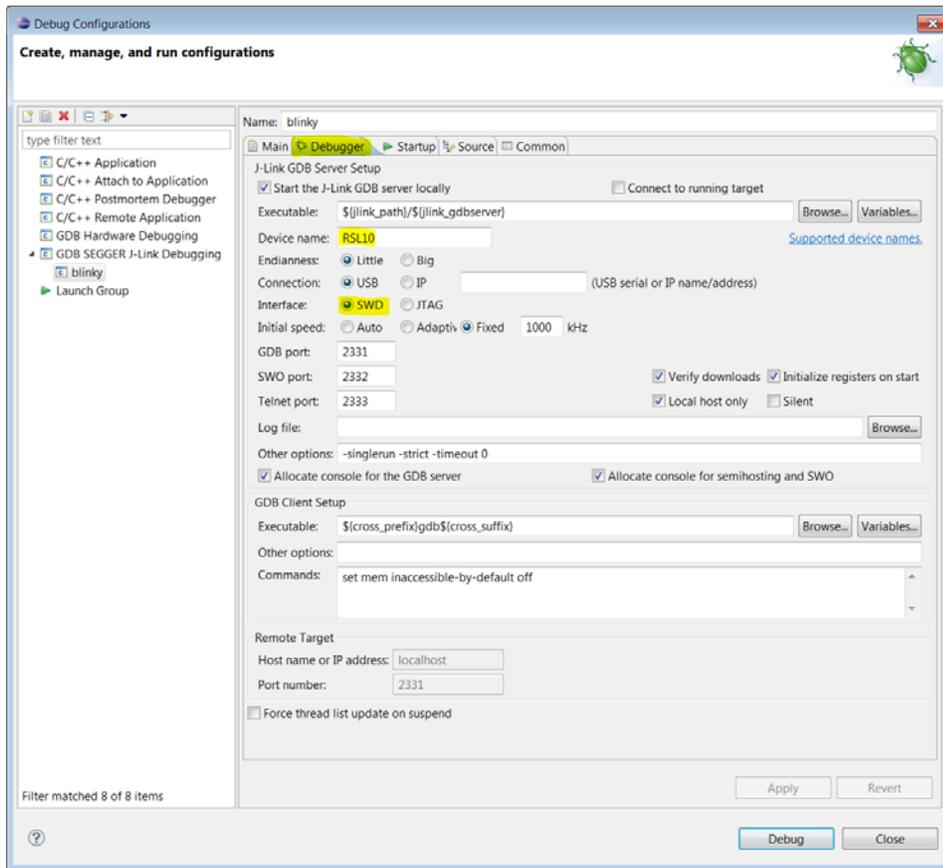

Figure 17. Setting Up a GDB Launch Configuration, Debugger Tab
- a. Change to the **Debugger** tab, and enter **RSL10** in the **Device** field. Ensure that **SWD** is selected as the target interface (as shown in Figure 17).